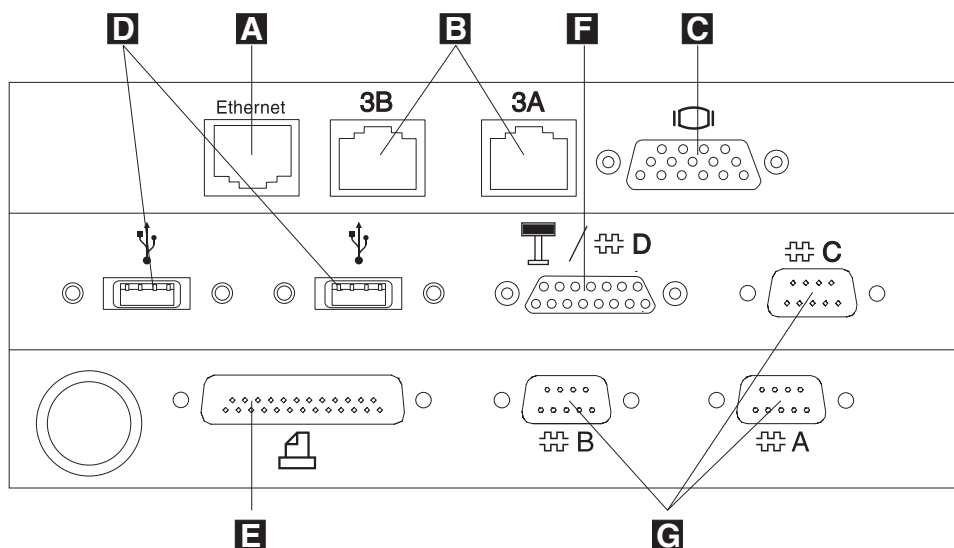
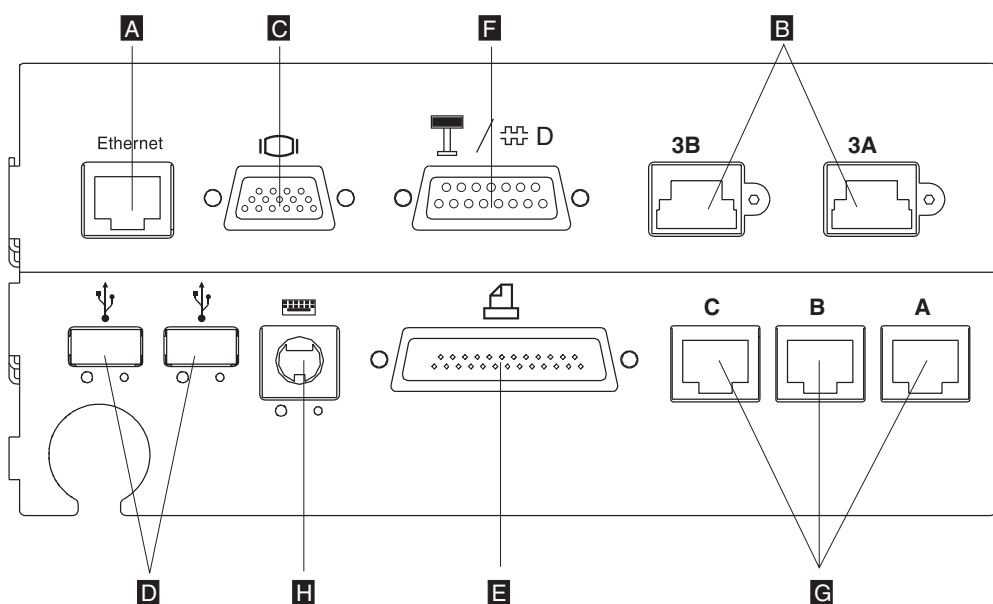

Figure 133. Tailgate connector panel, Models xx1, wall mounted
Figure 134. Tailgate connector panel, Models xx2, wall mounted
This section explains how to connect cables to the tailgate connector panel (shown in Figure 133 on page 152 and Figure 134 on page 152), using cable-ties. Connect the cables in the back row first, then work forward connecting any additional cables.
4. Connect the cables in the back row first, then work forward connecting any additional cables as shown in as shown in Figure 133 on page 152.